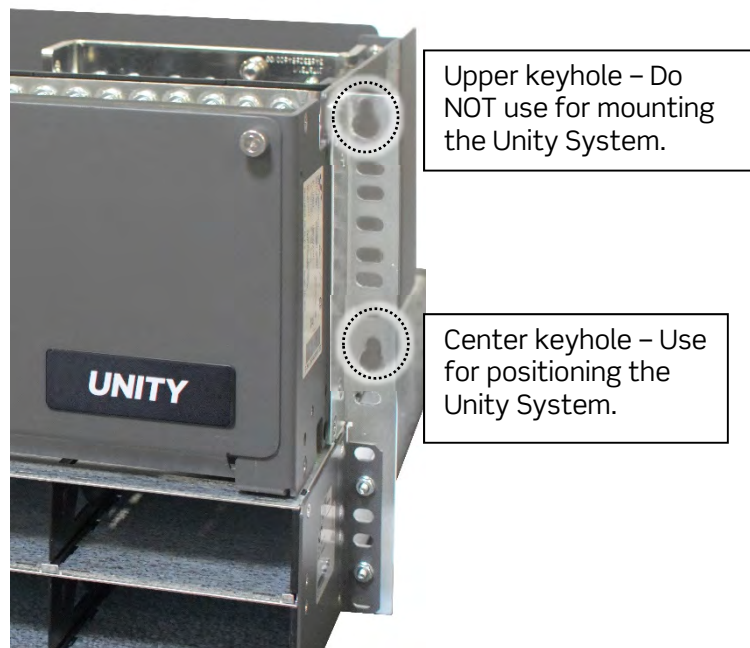

Figure 29 - Mounting Brackets
1. Lift the system up to the desired location in the rack. Use the center keyholes of the mounting brackets to position the system, in order to install the mounting screws (see Figure 29).